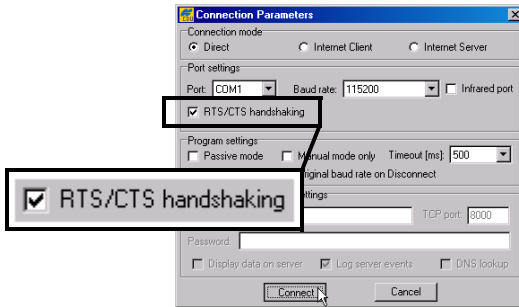

Figure 3-30. Connection Parameters – MINTER Settings
3. On the **Connection Parameters** dialog box, enable RTS/CTS handshaking (Figure 3-30).